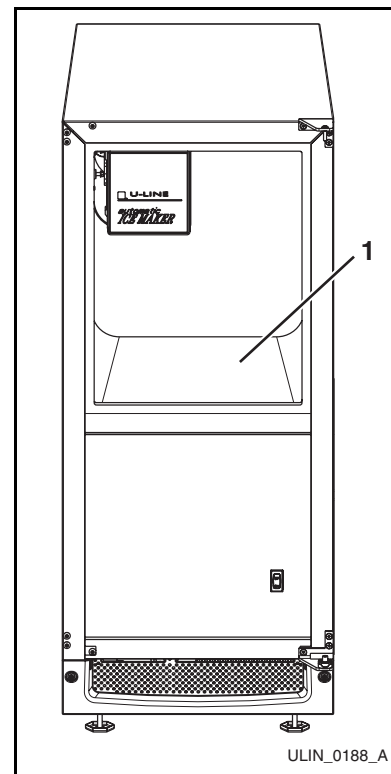

Figure 5
The drain pan was not designed to capture the water created when manually defrosting. To prevent water from overflowing the drain pan, place towels or other absorbent materials on the bottom of the unit (Figure 5, 1), before defrosting.
3. Place a towel or other absorbent material on bottom of unit (**Figure 5, 1**).